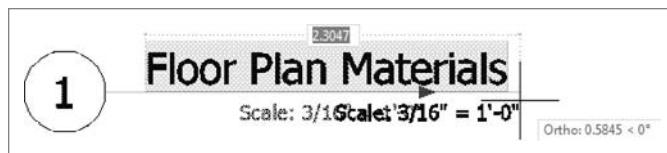

FIGURE 14.68 Adjusting the Drawing Title dynamic block
5. The Drawing Title block is a dynamic block. Click it and then drag the right end of the horizontal line to the right until it extends underneath the entire title. (See Figure 14.68.)